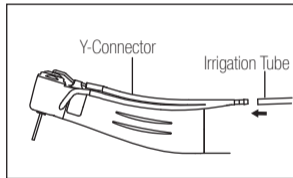

Fig. 5
- 2) Connect the Irrigation Tube to the Y-Connector firmly. (Fig. 5)